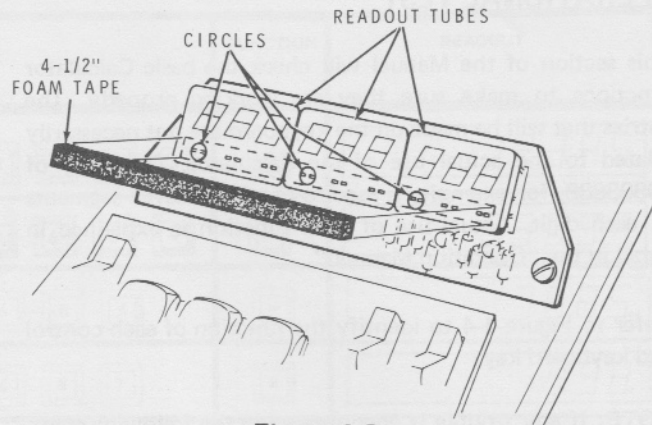

Figure 1-3
- (✓) Refer to Figure 1-3 and peel the backing paper from a 4-1/2" length of foam tape. Then press this foam tape onto the front of the readout tubes over the circle in each readout tube.